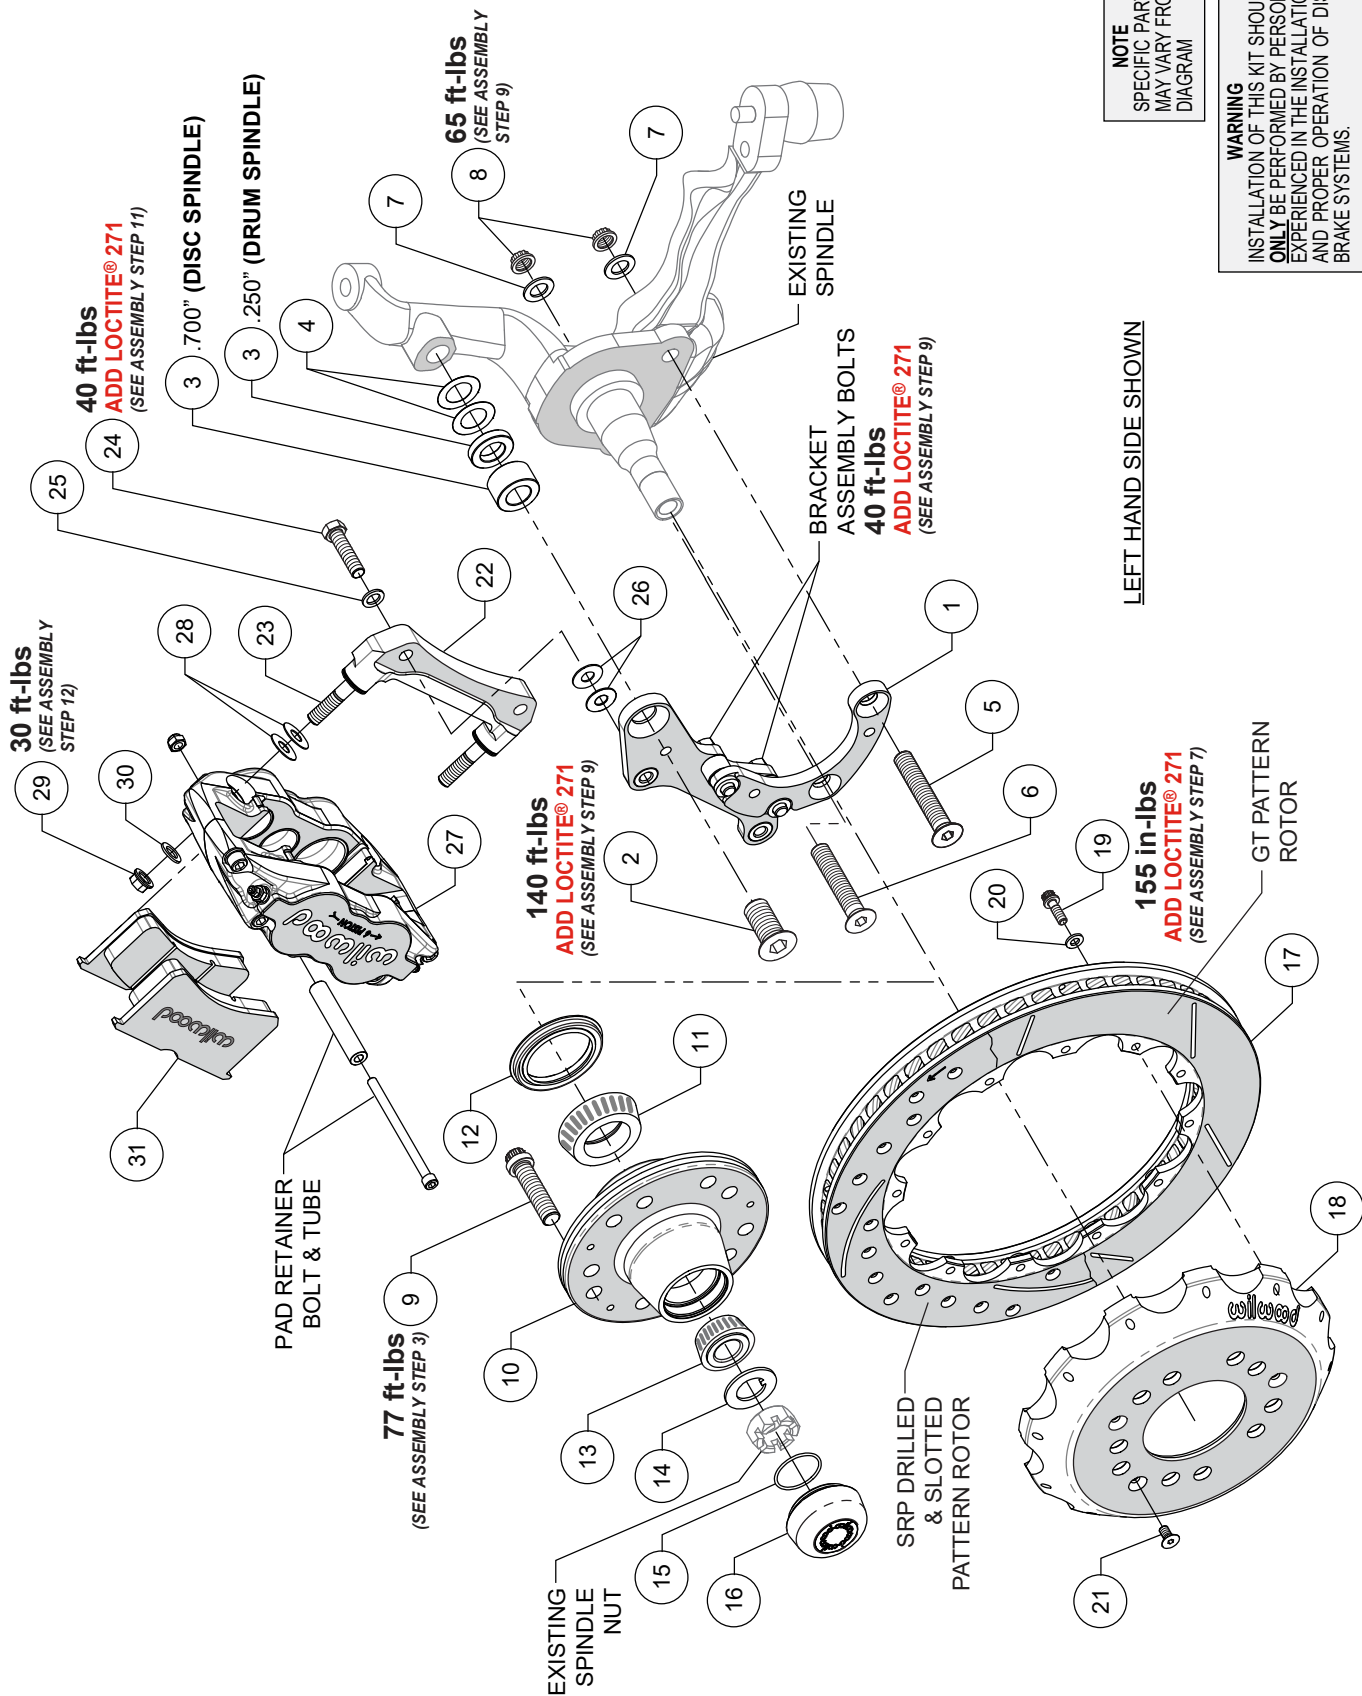
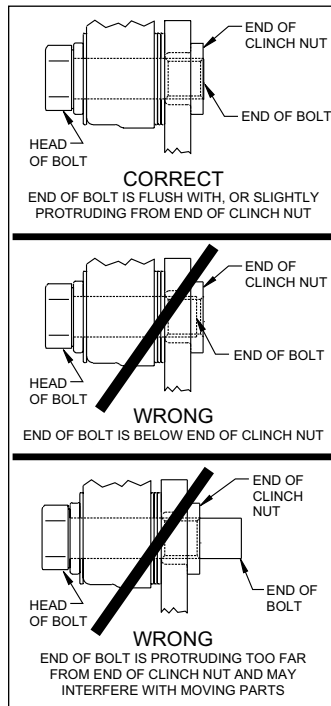

Figure 1. Typical Installation Configuration
Figure 4. Clinch Nut Engagement Diagram
NOTE: Numbers in parenthesis refer to the parts list and Figure 1 on the preceding pages.
CAUTION: All mounting bolts must fully engage clinch nuts. Be sure to check that all bolts are either flush or protruding through flanged side of clinch nut after shimming, Figure 4.
STEP 1 Bracket assembly (1) should initially be installed with clean, dry threads on the mounting bolts. The bracket has been assembled at the factory for alignment purposes. **Loosen the two bolts that secure the brackets together so that the bolts are hand tight only.** This will enable the bracket assembly to be adjusted to accommodate various spindle tolerances during assembly. Orient the bracket (1) as shown in Figure 1, and Photo 1. Install using bolt (2) on the upper hole of bracket while doing one of the following depending on type of spindle being used:
For drum spindle: Use .250" thick spacer (3) and two .010" shims (4) between the spacer and spindle as shown in Figure 1 and Photo 2.
For disc spindle: Use .700" thick spacer (3) and two .010" shims (4) between the spacer and spindle as shown in Figure 1 and Photo 3.
STEP 2 Install bolts (5 and 6), washers (7) and nuts (8) in the lower holes, Figure 1. Note the location of the longer bolt (5). Temporarily tighten the mounting bolts (5), followed by the two bracket-to-bracket bolts. **NOTE:** *The bracket must fit squarely against the mounting points on the spindle.* Inspect for interference from casting irregularities, machining ridges, burrs, etc. Later, after the bracket alignment has been checked, the nuts will be torqued to specification.
STEP 3 Install wheel studs (9) from the backside of the hub (10), Photo 4. Torque to value shown in Figure 1. **NOTE:** *There are two five lug patterns in the hub (5 x 4.50" and 5 x 4.75").* Ensure the correct hub stud pattern is being used to fit the wheel application.
STEP 4 Pack the large inner bearing cone (11) with high-temp disc brake bearing grease (available from your local auto parts store) and install into the backside of the hub (10), Figure 1 and Photo 5. Install the grease seal (12) by pressing into the backside of the hub (10), Photo 5.
STEP 5 Pack the small outer bearing cone (13) with high temperature disc brake bearing grease and install into the front side of the hub (10). Slide the hub assembly onto the spindle. Secure using spindle washer (14) and existing OEM spindle nut. Adjust bearings per OEM specifications and install new cotter pin (not supplied).
STEP 6 Screw dust cap (16) into hub (10). Friction created by the o-ring (15) on the dust cap keeps it from unscrewing. **NOTE:** *The O.D. of the existing OEM spindle washer may be larger than the I.D. of the dust cap not allowing it to seat against the hub face. Therefore, use the spindle washer (14) supplied with the kit instead of the OEM washer.*
STEP 7 Orient the rotor (17) and the hat (18) as shown in Figure 1 and Photo 6. Attach rotor to hat using bolts (19) and washers (20). Apply red *Loctite*® 271 to the bolt threads and torque to value shown in Figure 1 using a criss-cross pattern. For an added measure of security, the bolts may be safety wired using standard 0.032 inch diameter stainless steel safety wire as shown in Figure 3. Refer to Wilwood's data sheet DS-386 (available at www.wilwood.com/Pdf/DataSheets/ds386.pdf) for complete safety wire installation instructions.
STEP 8 Slide the rotor/hat assembly (17/18) onto the hub (10). **NOTE:** *The hat must fit flush against the hub face or excessive rotor run out may result.* Install rotor locator screws (21) to keep the rotor/hat assembly in place while continuing with the installation.
STEP 9 Check that the bracket assembly (1) is aligned parallel to the rotor, Photo 7. If not, adjust by adding or subtracting shims (4) on the upper bolt (2) between bracket and spindle, Figure 1. Once the bracket alignment is correct, remove the upper bolt (2), apply red *Loctite*® 271 to the threads and torque to value shown in Figure 1. Torque lower lock nuts (8) to value shown in Figure 1. One at a time, remove the bolts that secure the two brackets of the bracket assembly (1), apply red *Loctite*® 271 to the threads and torque to value shown in Figure 1.
STEP 10 **NOTE:** *Please reference the caution statement at the beginning of the assembly instructions.* The radial mount caliper bracket (22) should initially be installed with clean, dry threads on the mounting bolts. Orient the bracket, as shown in Figure 1 and Photo 9, and install using bolts (24) and washers (25). Initially place two .035" thick shims (26) on each bolt between the radial mount caliper bracket (22) and bracket assembly (1), Photo 8. Temporarily tighten the mounting bolts. Later, after the caliper alignment has been checked, the mount bolts will be secured using red *Loctite*® 271.
STEP 11 **NOTE:** *This kit contains distinct right and left hand calipers that must be mounted in a specific direction, as described below.* Initially place two .035" thick shims (28) on each stud (23) between the caliper and the bracket, as shown in Figure 1 and Photo 10. Mount the caliper (27) onto the bracket (22) using lock nuts (29) and washers (30), Figure 1. Temporarily tighten the lock nuts. Ensure that the caliper is mounted so the largest pistons are at the rotor exit end of the caliper, in relation to the forward rotation of the rotor. View the rotor through the top opening of the caliper. The rotor should be centered in the caliper, Photo 11. If not, adjust by adding or subtracting shims (26) on bolts (24) between the radial mount caliper bracket (22) and the bracket assembly (1). Always use the same amount of shims on each of the two mounting bolts. **NOTE:** *The end of each bolt (24) must be flush with or slightly protruding from the head of the clinch nut of bracket assembly as shown in Figure 4.* If necessary, place spare shims between washer (25) and radial mount caliper bracket (22) to achieve the proper clinch nut engagement. Once the caliper alignment is correct, remove the bracket mounting bolts (24) one at a time, apply red *Loctite*® 271 to the threads, and torque to value shown in Figure 1.